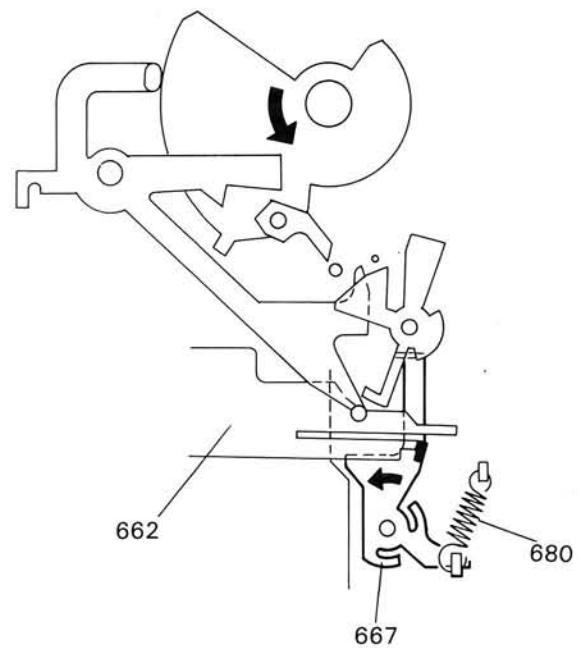

Fig. 5
Further, the cycle plate (661) moves downwards and go off with the discrimination lever (667), at which time the discrimination lever (667) is pulled by the spring (680) to hold the switch lever (662) as shown in Fig. 5.